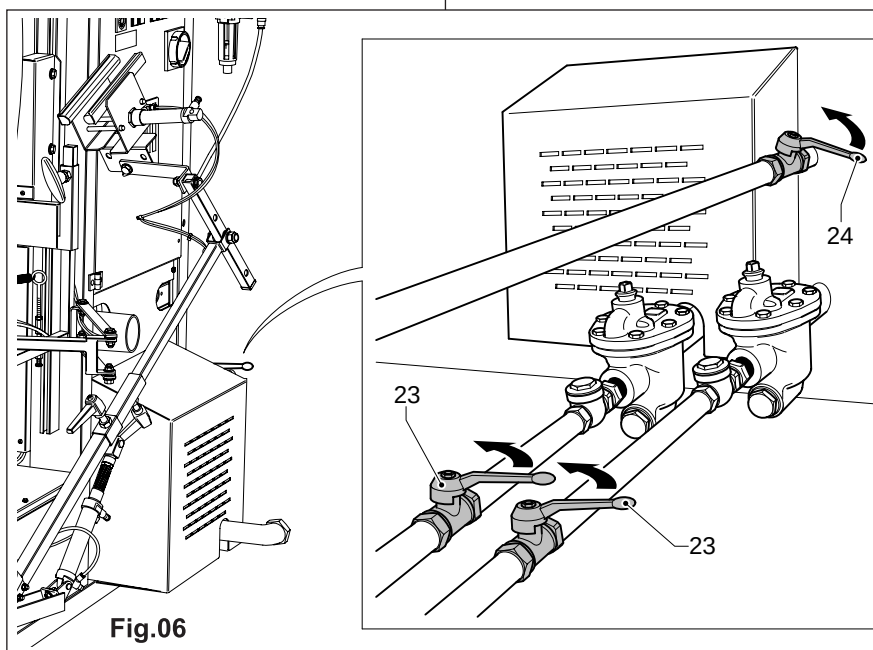

**Fig.06**
- c) For machines without boiler: open the mains water gate valve for steam feeding (24) Fig.06 and condensate return (23) Fig.06.